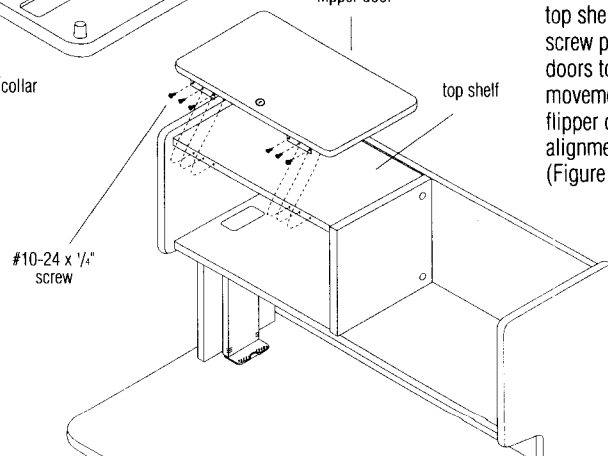

Figure 7
19. Turn flipper door over and position it onto the top shelf as shown with the keyed lock to the front. Align the three holes of each hinge with the pre-drilled holes in the top shelf. Fasten, but do NOT tighten, the hinges to the top shelf with three #10-24 x 1/4" screw per hinge. Center the flipper doors to the opening for free movement and tighten screws. Close flipper door to check for proper alignment and adjust as necessary (Figure 7).